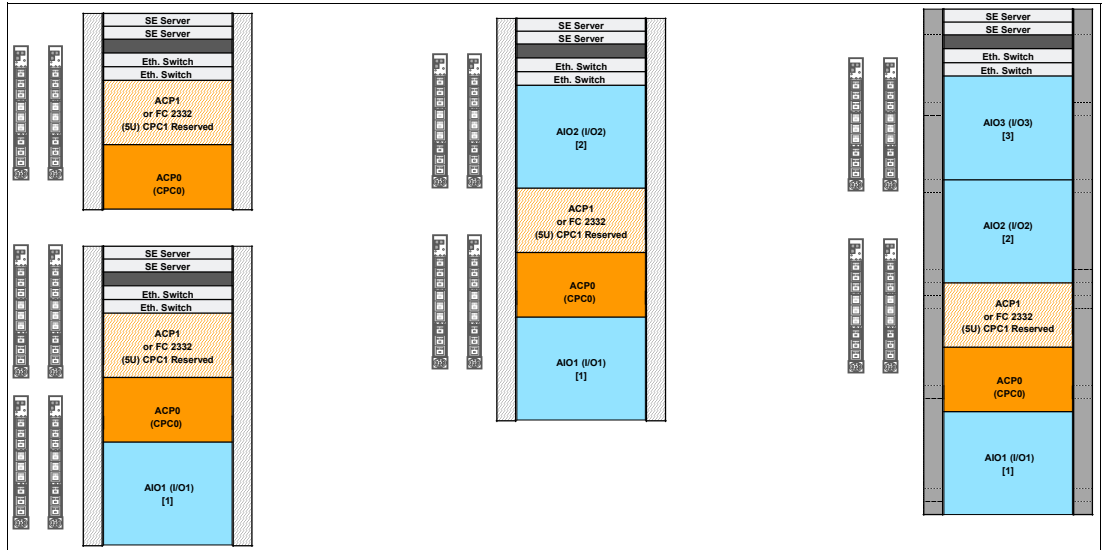

Figure 12-14 Two CPC drawers and 0, 1, 2, and 3 PCIe+ I/O drawers
**Important:** Two CPC Drawer configurations (Figure 12-14) require three-phase PDUs. Also, CPC1 Reserve feature (FC 2332) requires three-phase PDUs for non-disruptive add of the second CPC drawer.